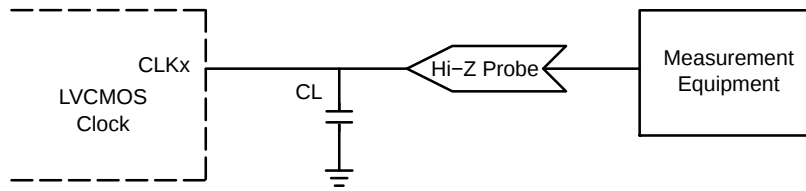

Figure 7. LVCMOS Parameter Measurement
5. Measurement taken with single ended clock outputs terminated with test load capacitance of 5 pF and 15 pF and differential clock terminated with test load of 2 pF. See Figures 7, 8 and 11.